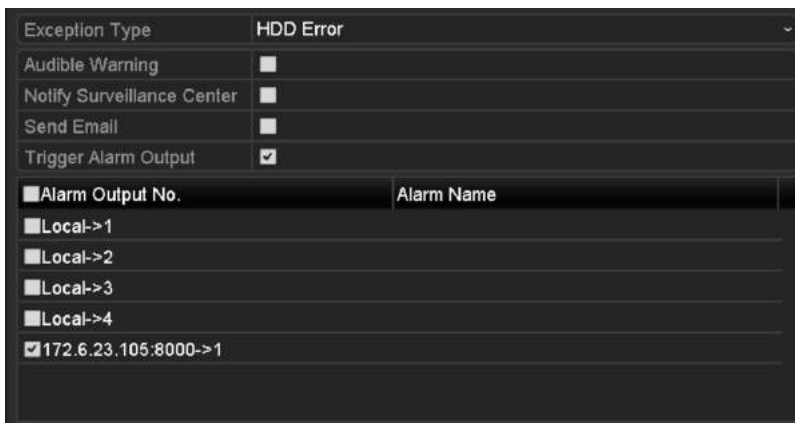

Figure 12. 29 Configure HDD Error Alarm
3. Click the checkbox(s) below to select the HDD error alarm type (s), as shown in Figure 12. 29.